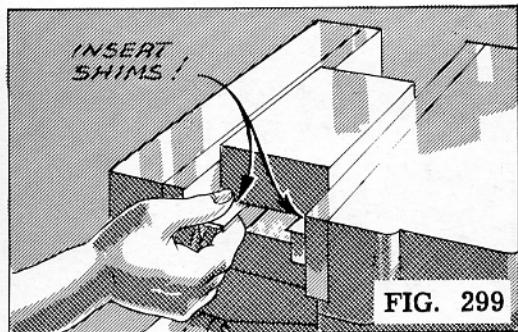

FIG. 299
8. Place shims under the parts of the job that do not rest on parallels or on the vise if the work is likely to move down in the vise as a result of the cutting pressure (Fig. 299).